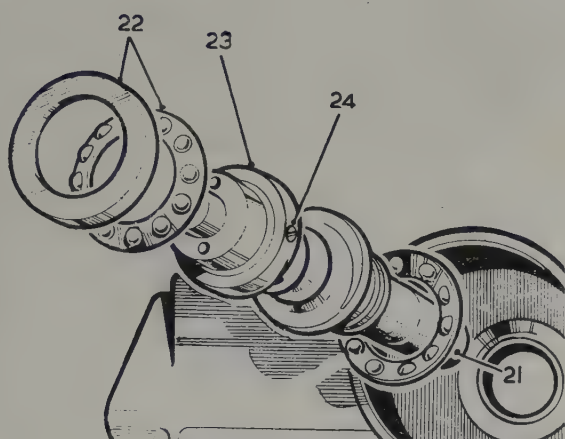

Fig. 11.41. Power steering box input shaft (21) outer bearing assembly (22) valve and worm assembly (23) trim screw (24)
- 15 Withdraw the outer bearing cup, the caged balls, the valve and worm assembly (Fig. 11.41). **Do not dismantle the latter or touch the trim screw otherwise the calibration of the unit will be upset.**